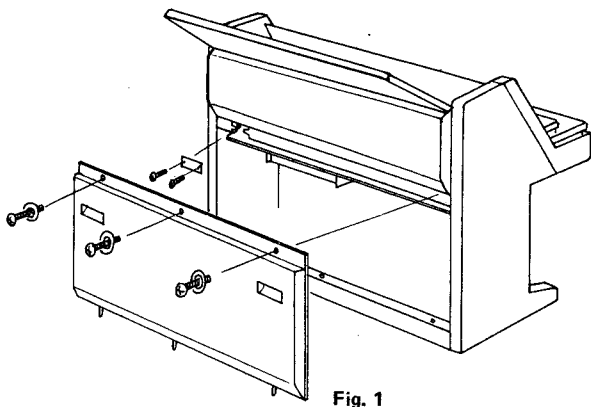
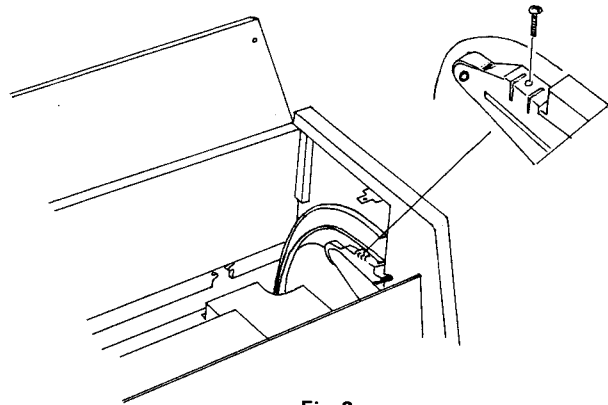

Fig. 1
Fig. 2
2. Remove the metal plate used to cover the opening on the back of the Electone provided for this accessory (2 screws). Retain these screws as they will be used in step #6 (see figure 1).
3. Remove top board retaining screws and open the top board. FS-200X has two (2) screws on top.
4. Remove control panel retaining screws (2), (see figure 2).